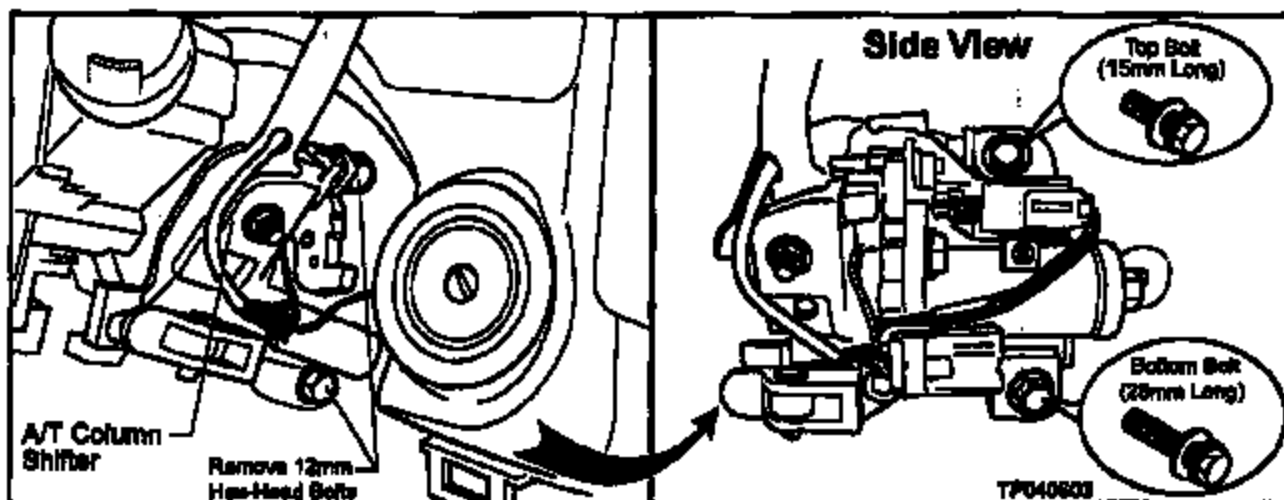

Figure 8
12. Remove the two 12mm Hex-Head Bolts and remove the original (old) A/T Column Shifter (see Figure 8).
12. Install the new A/T Column Shifter (see Figure 8).